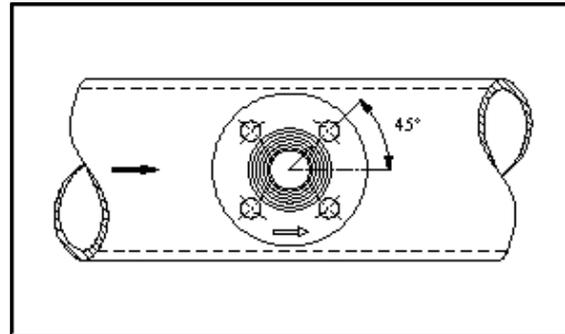
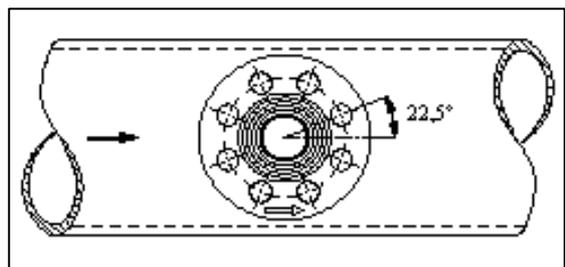

fig 28
fig 29
2. Tack the mounting stud onto the pipe, leaving a clearance of 1-2 mm. The bolting holes of the flange have to be located in an angle of 45° to the pipe axis (see fig. 28). For flanges with 8 bolting holes angle of 22,5° to the pipe axis is needed (see fig. 29). Check the horizontal alignment of the mounting stud.